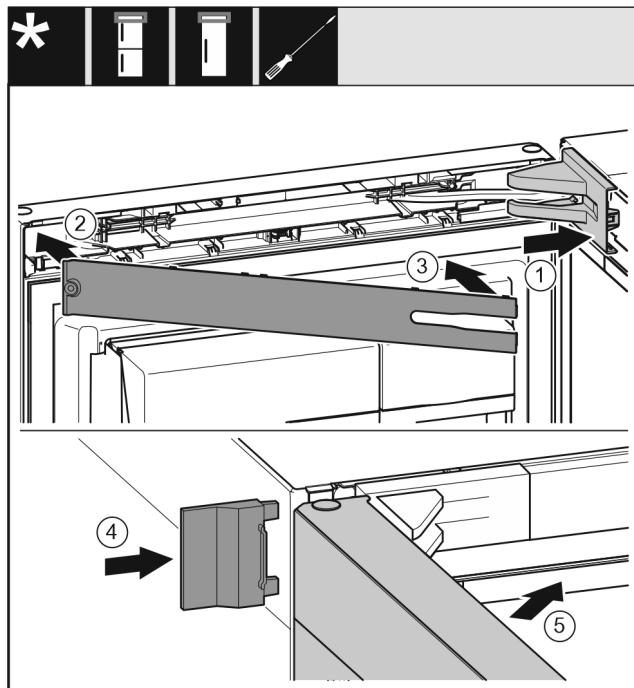

Fig. 49
- Position the bearing bracket cover and latch it in place. If necessary push it apart carefully. Fig. 49 (1)
- Position the panel. Fig. 49 (2)
- Swing in the panel and latch it into place. Fig. 49 (3)
- Slide on the outer cover. Fig. 49 (4)
- Close the upper door. Fig. 49 (5)